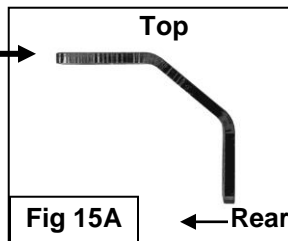

Fig 15A
- Select (1) Center Support Bracket, **(Figure 15A)**. Attach the long end of the Support Bracket to the forward Bolt Plate in the frame channel with (1) 10mm Flat Washer, (1) 10mm Lock Washer and (1)